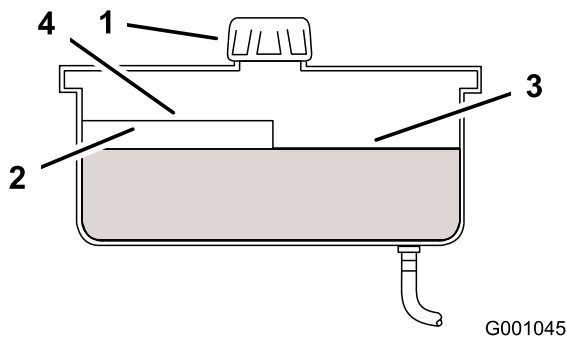

Figure 46
4. Clean area around cap and filler neck of hydraulic tank (Figure 46).
5. Remove cap from filler neck. Look inside to check the fluid level in the reservoir. (Figure 46).
Note: The fluid level should be to the top of the hot level of the baffle, when the fluid is warm (Figure 46).